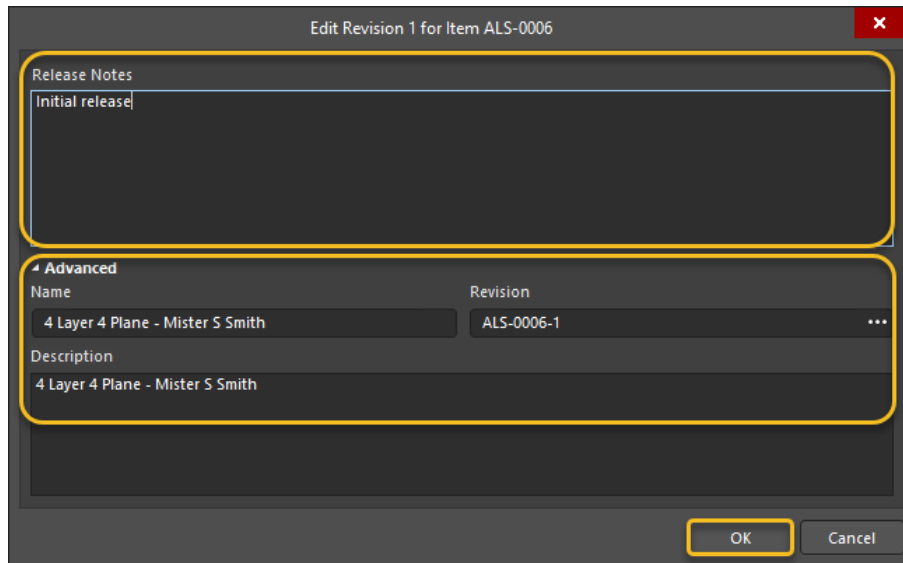

Figure 17. Edit revision 1 for Item dialog
64. In the dialog *Edit revision 1 for Item ALS-[Number]* that pops up, add a release note Initial release, Figure 17.